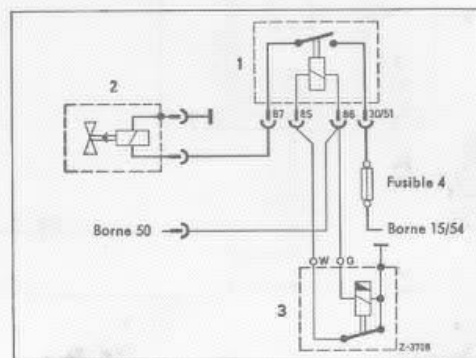

FIG.6
5. Below a coolant temperature of 95 F, a COLD START SYSTEM (Fig. 6) is activated while cranking the engine.